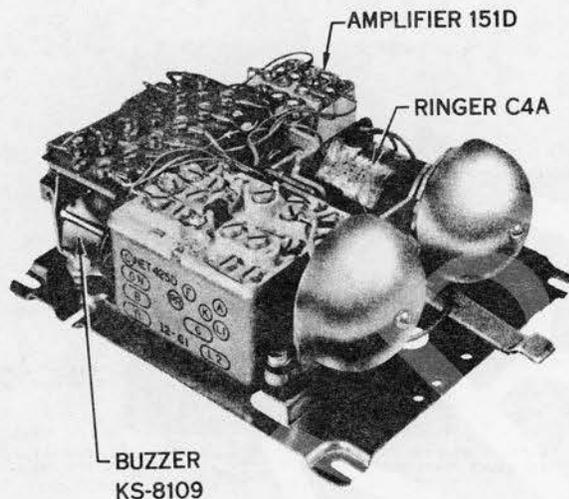

Fig. 11 - 688A Subscriber Set, Internal View
2.09 688A: Provides transmission and ringing features for 52- and 53-type head telephone sets when used with 1A1, 1A2, and 6A key telephone units. A buzzer provides a means for local signaling when required (Fig. 11).